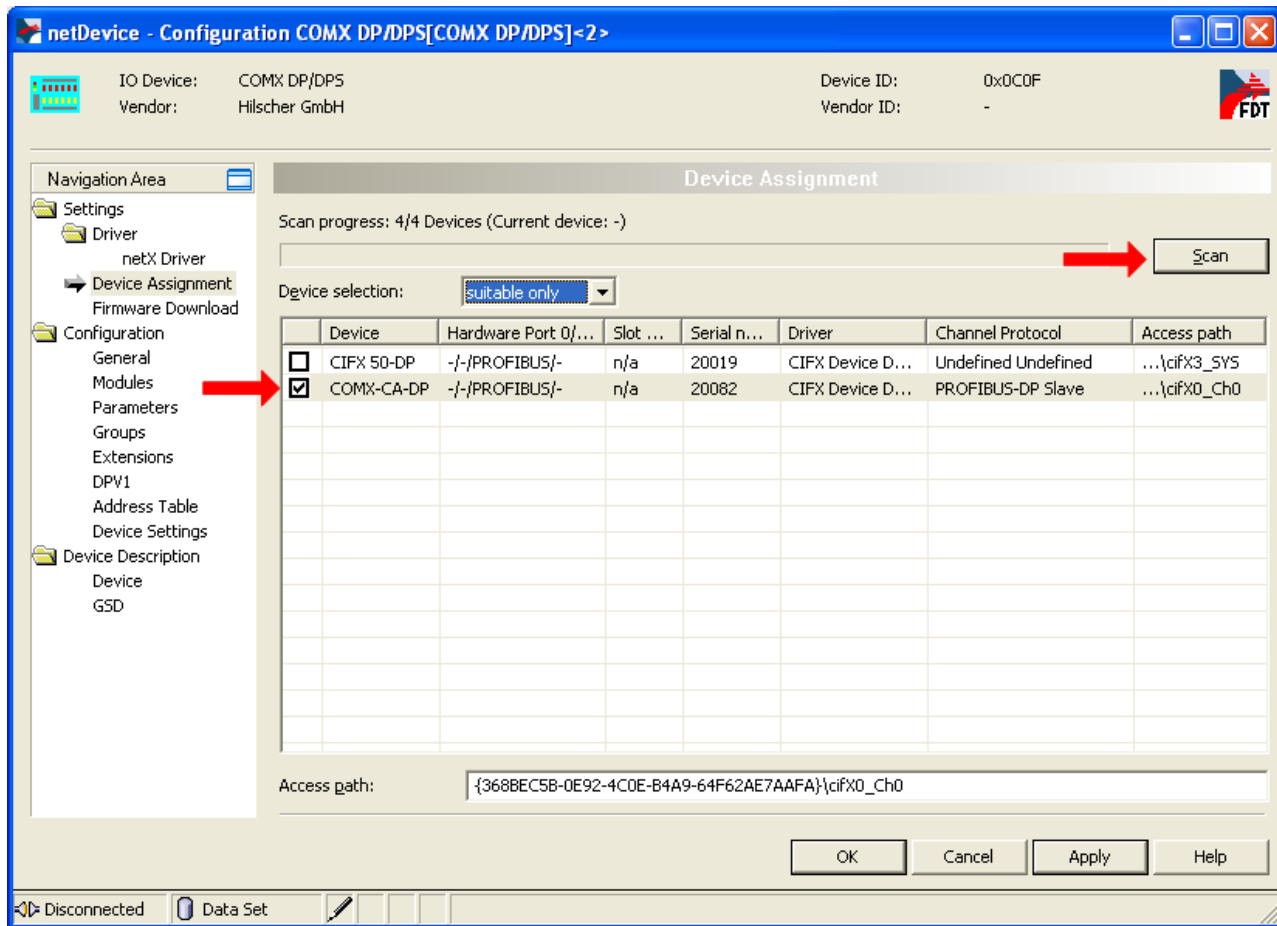

Figure 50: Starting the Search Process for Devices and Selection of Device
- In order to start the search process for suitable devices, click at the button „*Search*“ (see *Figure 50: Starting the Search Process for Devices and Selection of Device* on page 157, at the red arrow right on top).
- For the selection of the device check the checkbox of the comX communication module whose firmware is to be updated (also see *Figure 50: Starting the Search Process for Devices and Selection of Device* on page 157, at the red arrow in the center part of the figure).